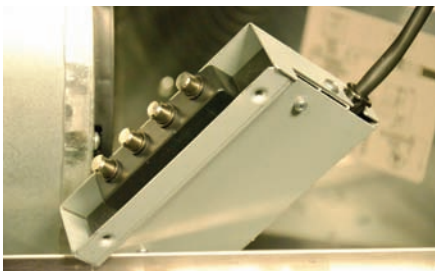

Figure 2
4. Pull the metal control housing out through the filter opening, see figure 2.